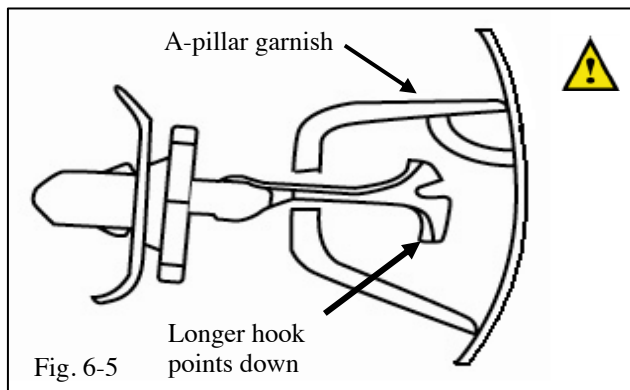

Fig. 6-5
(1) Make sure the clip is in the proper orientation. (Fig. 6-5)